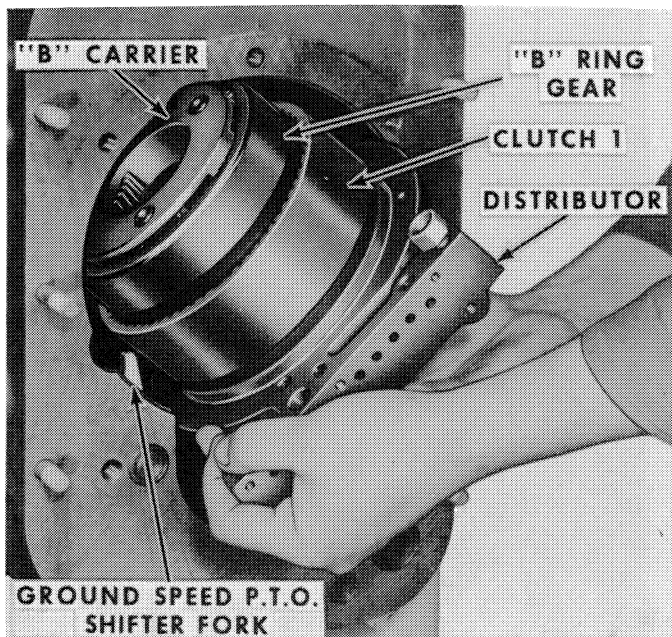

Figure 51
14. Remove the distributor, clutch 1, "B" ring gear and "B" carrier as an assembly, as shown in Figure 51.